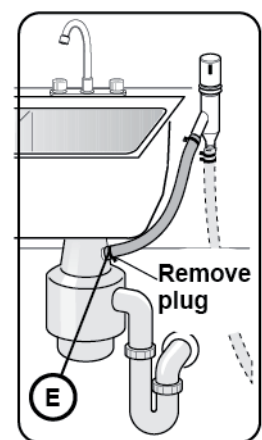

Figure 13
4. To a disposer dishwasher drain connection through an air gap, as shown on Figure 13.